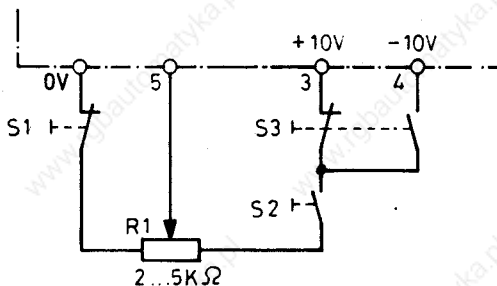

Fig. 6.4.1.1
- External switches S1 and S2 are to be connected as in Fig. 6.4.1.1.